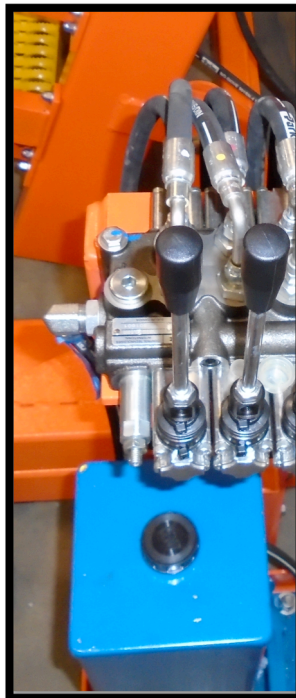

Figure 14
- Push forward strut lever. See figure 14.
- Push forward ladder lever. See figure 14.
- Pull back ladder lever. See figure 14.
- Pull back strut lever. See figure 14.